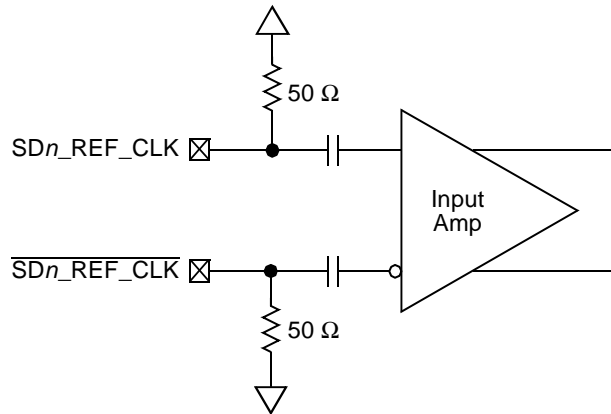

Figure 45. Receiver of SerDes Reference Clocks
Figure 45 shows a receiver reference diagram of the SerDes reference clocks.
- The  $\text{SD}n_{\text{REF\_CLK}}$  and  $\overline{\text{SD}n_{\text{REF\_CLK}}}$  are internally AC-coupled differential inputs as shown in Figure 45. Each differential clock input ( $\text{SD}n_{\text{REF\_CLK}}$  or  $\overline{\text{SD}n_{\text{REF\_CLK}}}$ ) has a 50- $\Omega$  termination to  $\text{SGND\_SRDS}n$  (xcorevss) followed by on-chip AC-coupling.